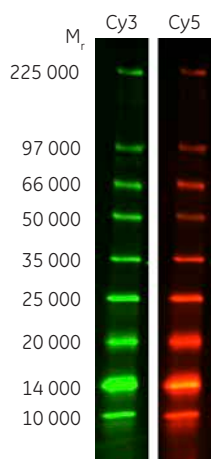

Fig 7. The Amersham WB molecular weight (M_r) markers are visible in both Cy3 and Cy5 channels.
- Ready-to-use fluorescent molecular weight markers included for optimal calibration in both Cy3 and Cy5 channels (Fig 7).